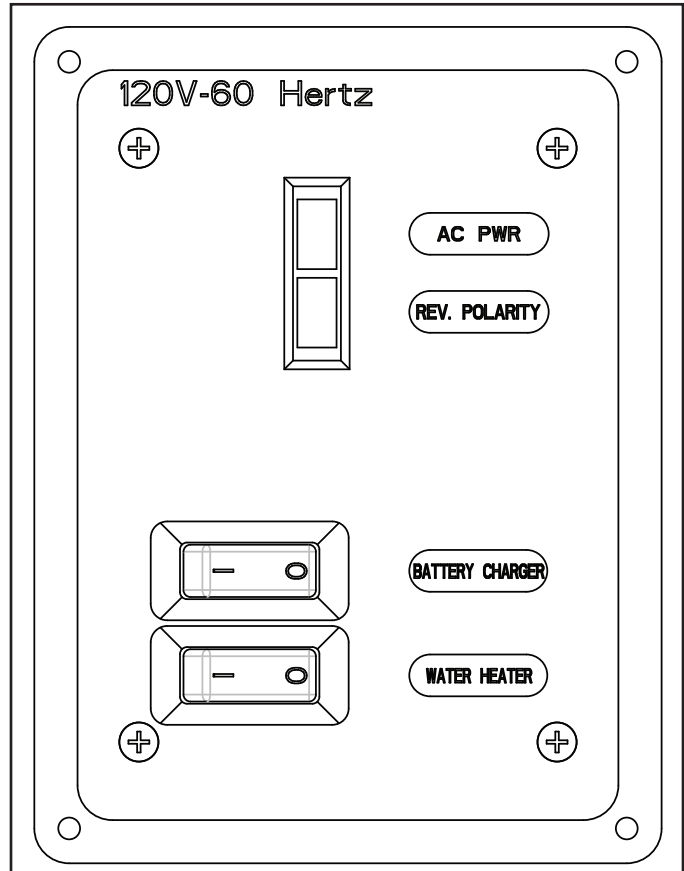

Figure 8.1
- Turn off equipment breakers. (See Figure 8.1)